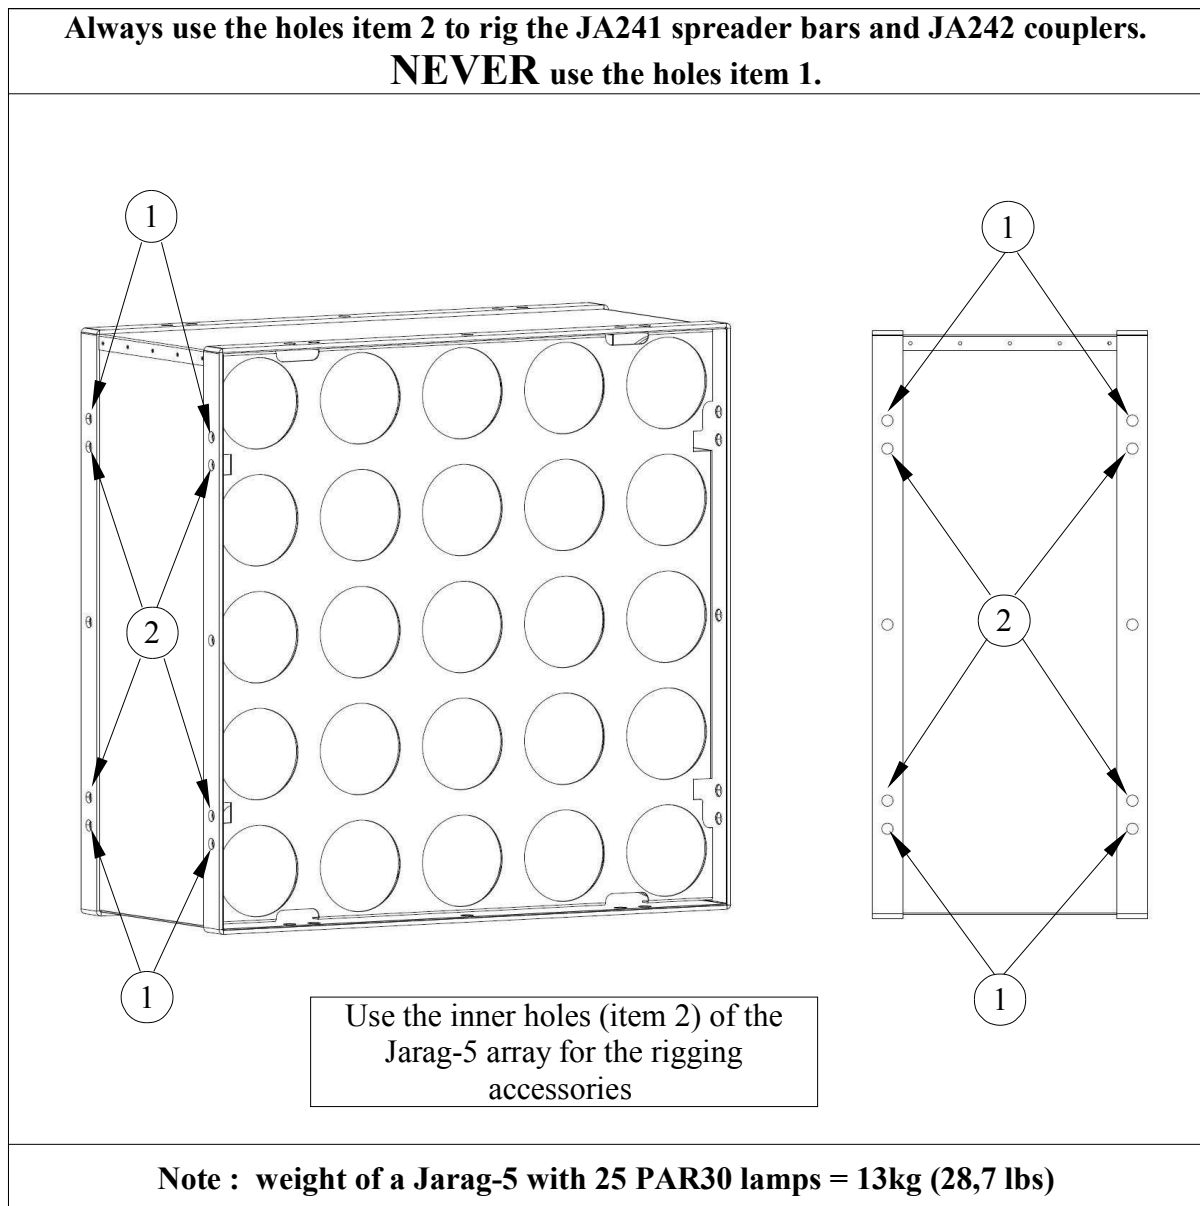

Figure 3: Mounting holes for the Jarag-5 array
**⚠ NB:** The JA241 spreader bar and JA242 J-Coupler assemblies **MUST ALWAYS** be used to rig the Chromlech Jarag-5 arrays (JA121 and JA221) as shown in figures 3 and 4.